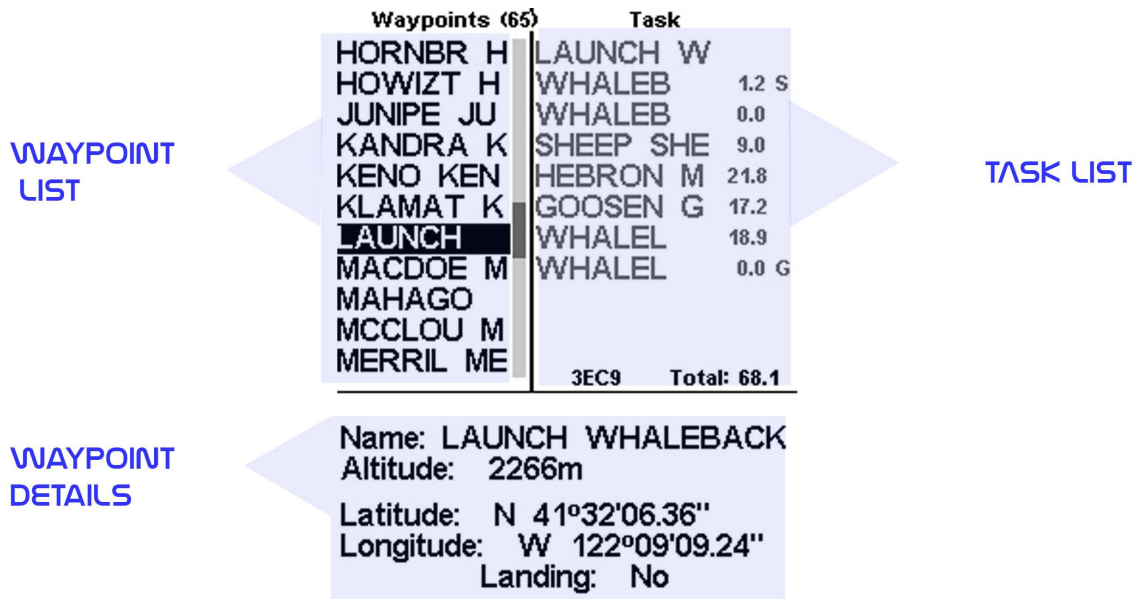
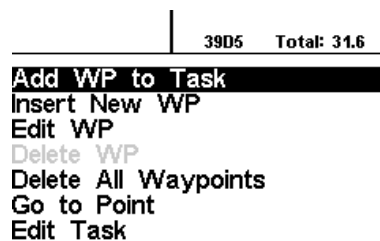

Figure 4.2: Waypoints and TaskScreen
Figure 4.3: Waypoints Action Menu
The Waypoints/Taskpage allows the user to manage waypoints, and define a route/task. As shown in Figure 4.2, the page is divided into 3 areas, namely the waypoint list (WL); Tasklist (TK) and selected waypoint details/options list (DO). The DO area can change according to which submenu you are in. Specifically, it can show the selected waypoint data, or a list with possible actions for the waypoints. Entering the page activates the WL area. At the top of the page next to the title Waypoints, is the total number of Waypoints stored in the NAV SD instrument¹. The first waypoint on the list appears highlighted, and the corresponding data of the selected waypoint is shown in the DO area. As the cursor is moved to a different waypoint so the data changes matching the newly selected waypoint. If the waypoints list is empty a list of available actions is shown in the DO area. Since no waypoint exists only the *Insert new Waypoint* action is available. Pushing the ENTER key when a waypoint is selected activates the waypoint actions menu (WAM). A list with the available actions is shown in the DO area Figure 4.3.
Available WAM options appear in black, otherwise in grey. For example, in Figure 4.3 the option *Delete WP* is not available because the Waypoint list is empty.